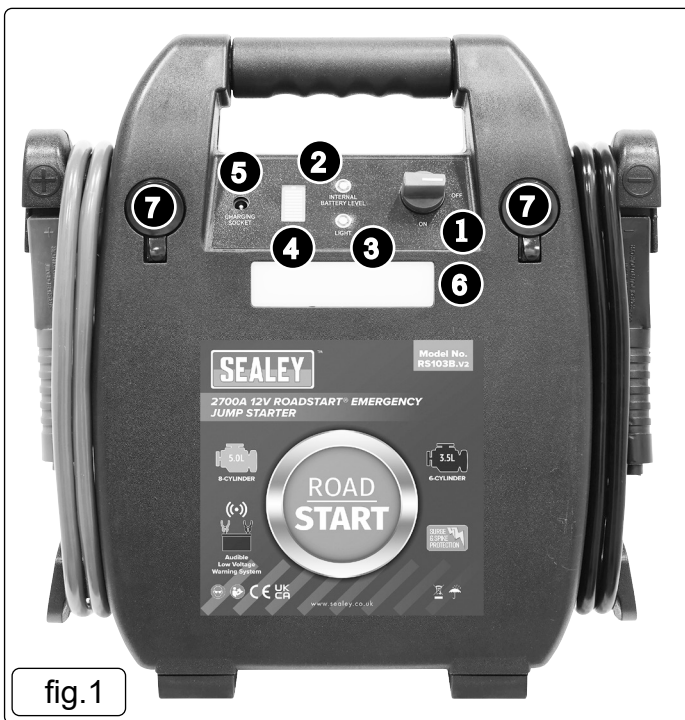

fig.1
4.2. LED MULTI-FUNCTION DISPLAY fig.1/fig.4.